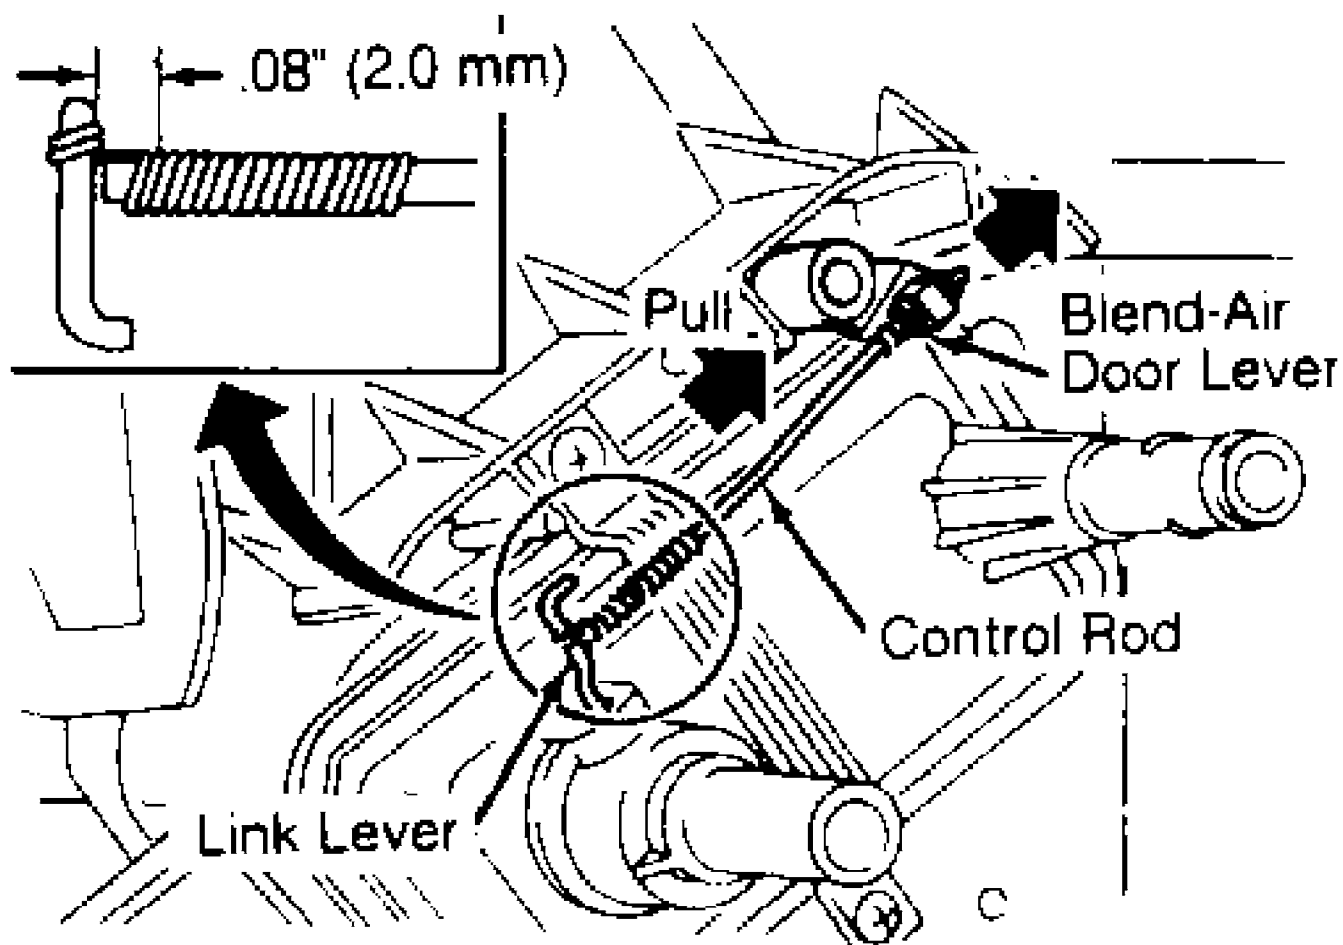

Fig. 7: Adjusting Heater Valve Control Rod (Typical)
1) Set temperature lever to maximum cold position. Disconnect temperature control cable from blend-air door lever. See Fig. 7. Ensure blend-air door is positioned away from link lever.